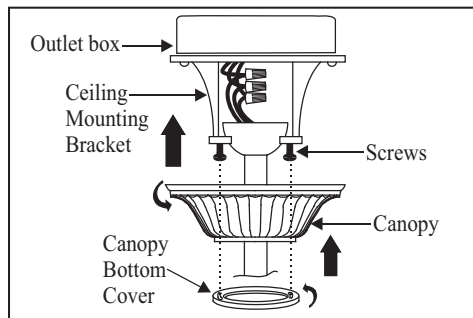

Figure 10
2. Slide the canopy up to ceiling and over the 2 screws on the mounting bracket. Rotate canopy clockwise. Next, while holding the canopy with one hand, slide the canopy cover over the screws and rotate clockwise until tight. **Note:** Adjust the canopy screws as necessary until the canopy and canopy cover are snug. (Fig. 10)